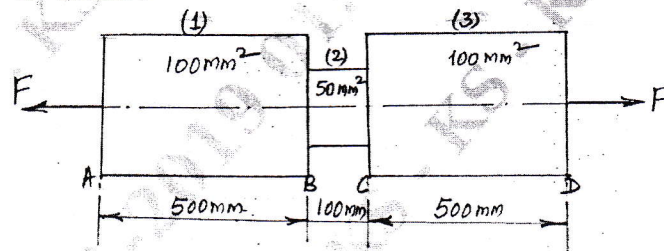

Fig.Q10(b)
- b. The maximum stress produced by a pull in a bar of length 1100 mm is 100 N/mm^2 . The area of cross sections of length are shown in Fig.Q10(b). Calculate the strain energy stored in the bar if $E = 2 \times 10^5 \text{ N/mm}^2$.